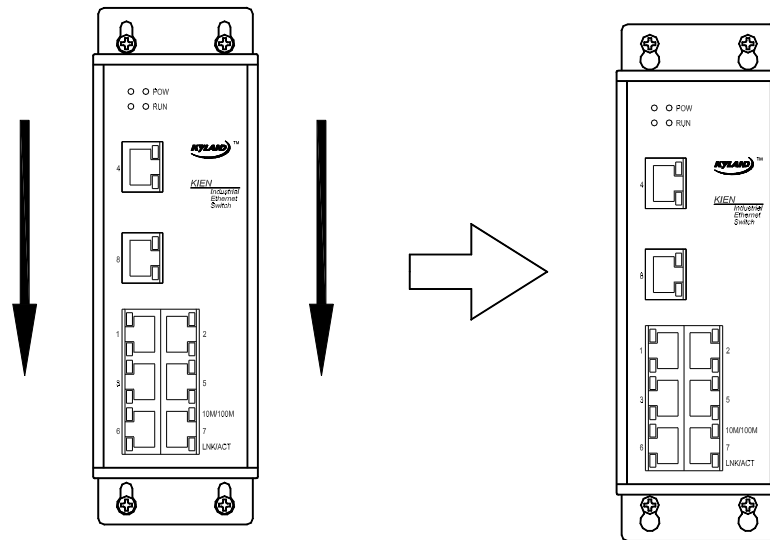

Figure 4-5 Schematic diagram for wall-mounting process
- 4 . After fastening the screws on the wall, mount KIEN5000 in the selected position. Pass the four screws through the four  $\Phi 65$  holes on the wall-mounting plate and slip KIEN5000 downwards, as shown in Figure 4-5. Fasten the four screws. KIEN5000 has now been fastened on the wall or inner wall of cabinet.